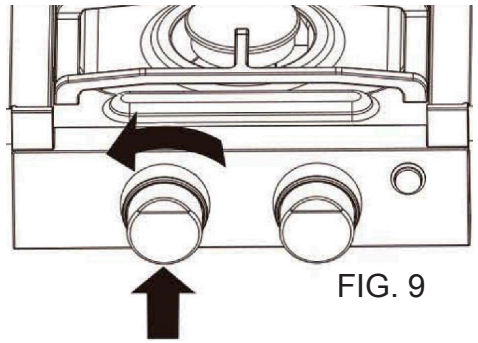

FIG. 9
4. Immediately after the control knob is set, press the knob until the burner lights. Fig.9